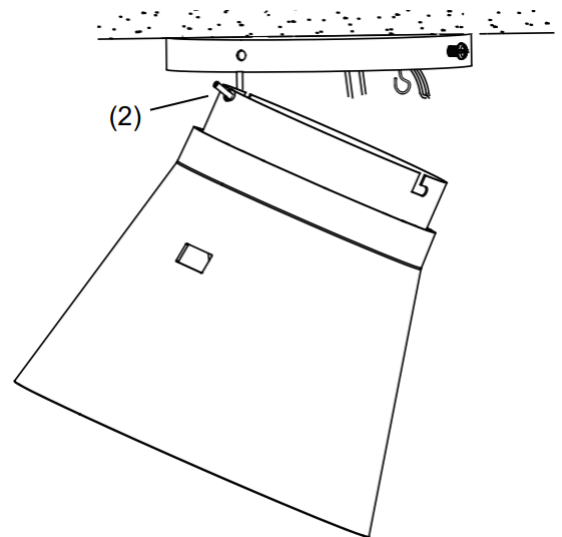

Fig. 7
- Lift the fan assembly up to the mounting bracket. Hang the fan assembly onto the J-hook (2) of the mounting bracket. (Fig.7)